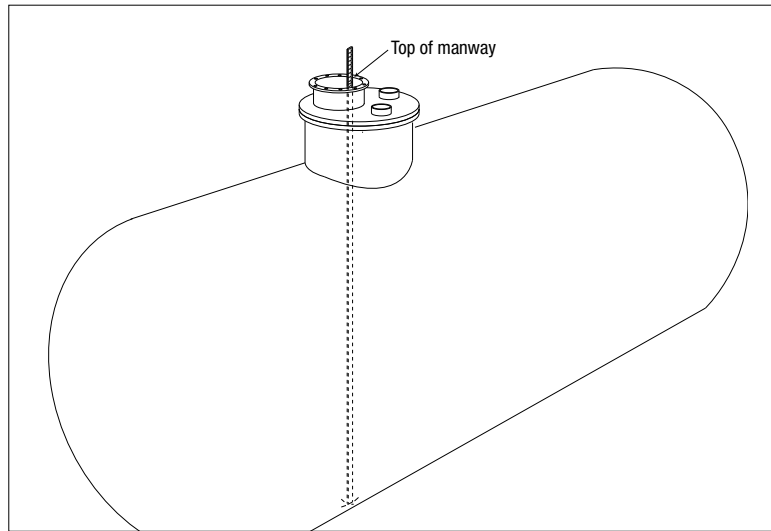

Figure 5. Measuring Tank
2. Measure the distance from the bottom of the tank to the top of the manway as shown in Figure 5.